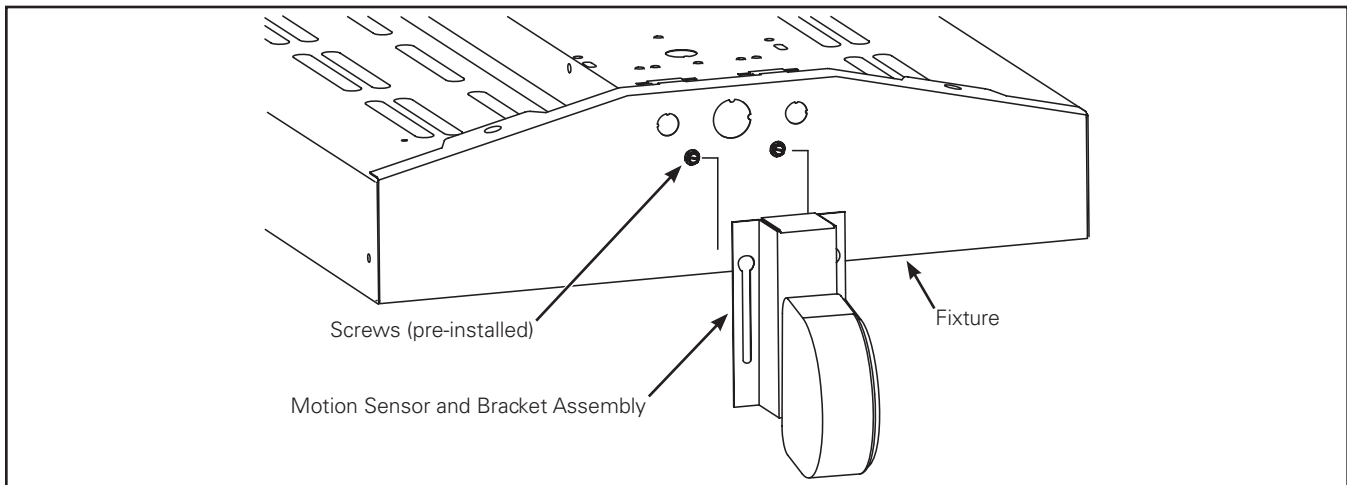

Figure 1.
1. Insert motion sensor and bracket to pre-installed screws on fixture endplate. (Figure 1.)